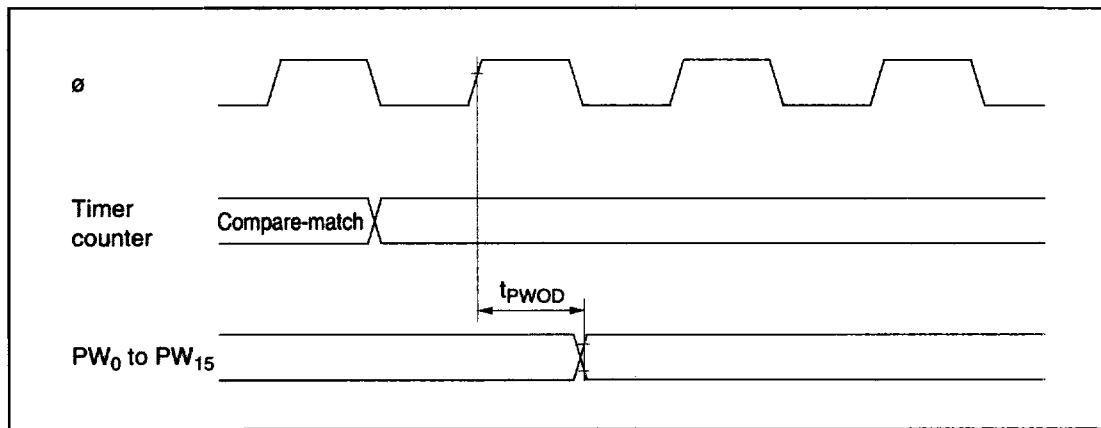

Figure 19-15 Pulse Width Modulation Timer Output Timing
19.3.5 Pulse Width Modulation Timer Timing	Figure 19-15